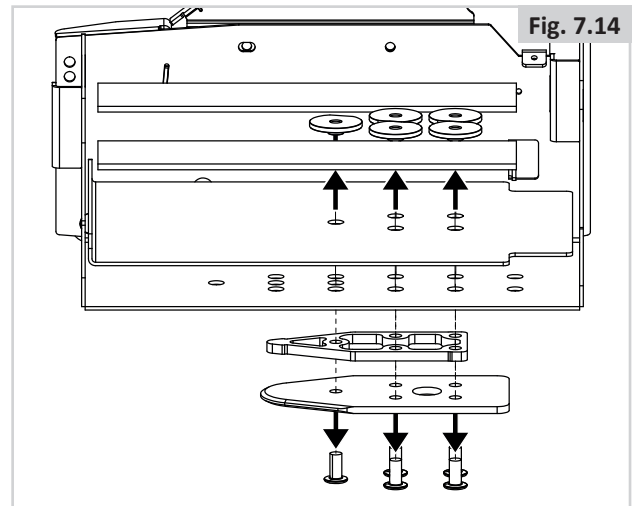

Fig. 7.14
5. Remove the screws together with the spacer/spacers and lockplate (Fig. 7.14).